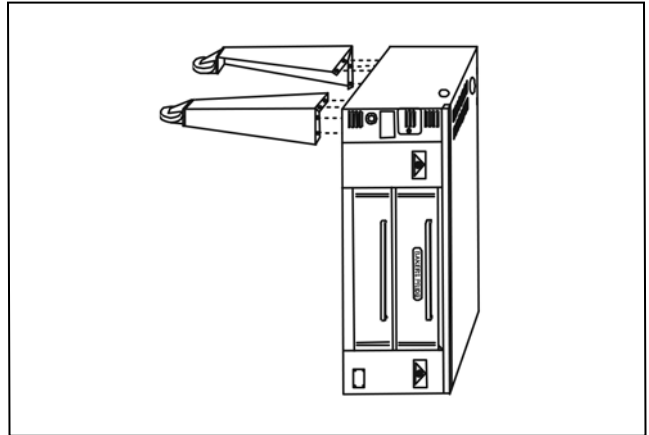

Figure 4
- Bolt four legs to the four of the stand using the supplied 3/8-16 x 3/4 bolts, flat washers, and lock washers. (See Fig. 4).